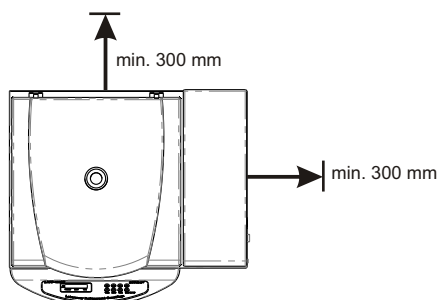

Fig.1 Centrifuge location requirements
- do not place any objects in front of the ventilation slots underneath, 300 mm behind and from the right side of the centrifuge (see fig.1) that could disrupt air circulation.